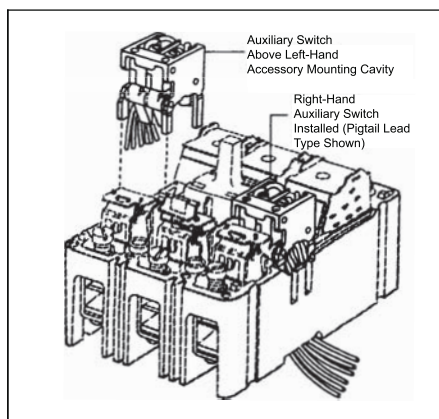

Fig. 2-4. Auxiliary Switch Installation Positions.
- 2-5. Insert the auxiliary switch as described in the following steps (see Fig. 2-4):
- b. Slide auxiliary switch plug-in module into mounting slots in base so that auxiliary switch operating arm(s) is between accessory operating projection on the molded crossbar and the arc extinguisher (see Fig. 2-4). For terminal block assemblies, slide terminal block into mounting trough in side of base as plug-in module is being positioned.